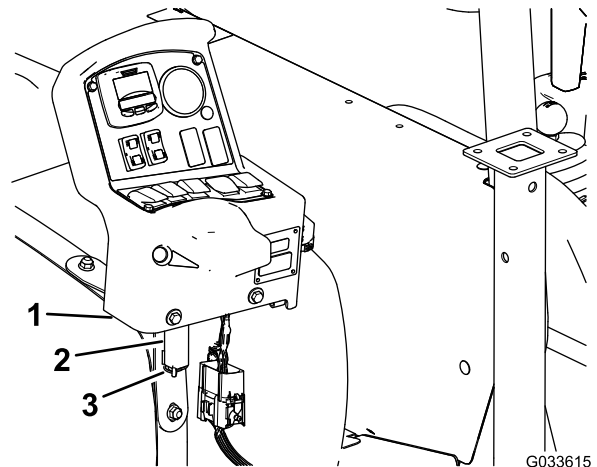

Figure 134
7. Remove the console from the console-mounting bracket at the dash of the machine and align the pivot pin on the control console with the storage bracket at the front tank strap (Figure 134); refer to Installing the Control Console to the Machine (page 19).
8. Assemble the console to the bracket and secure the pivot pin to the bracket with the hairpin (Figure 134).